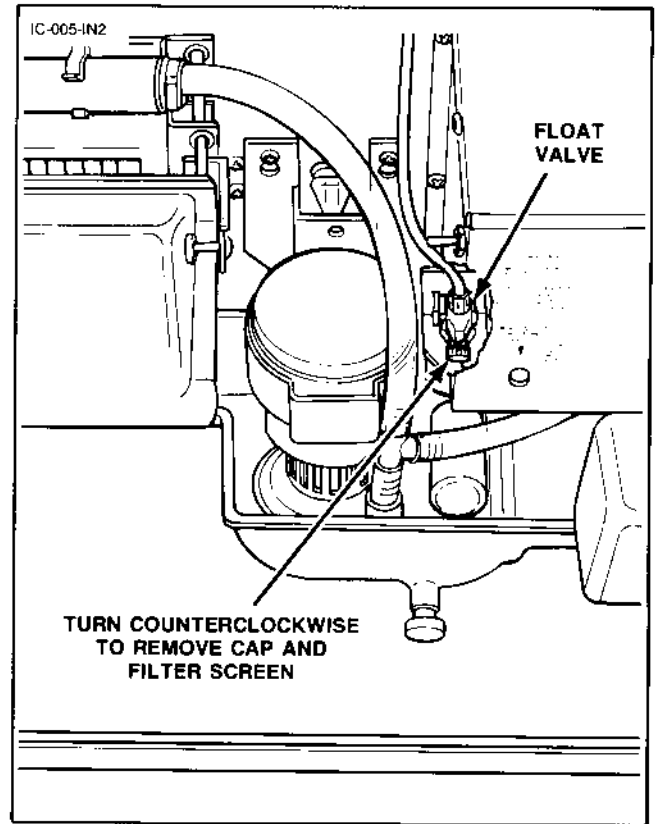

Figure 4
- Has filter screen in float valve been cleaned? See Figure 4.